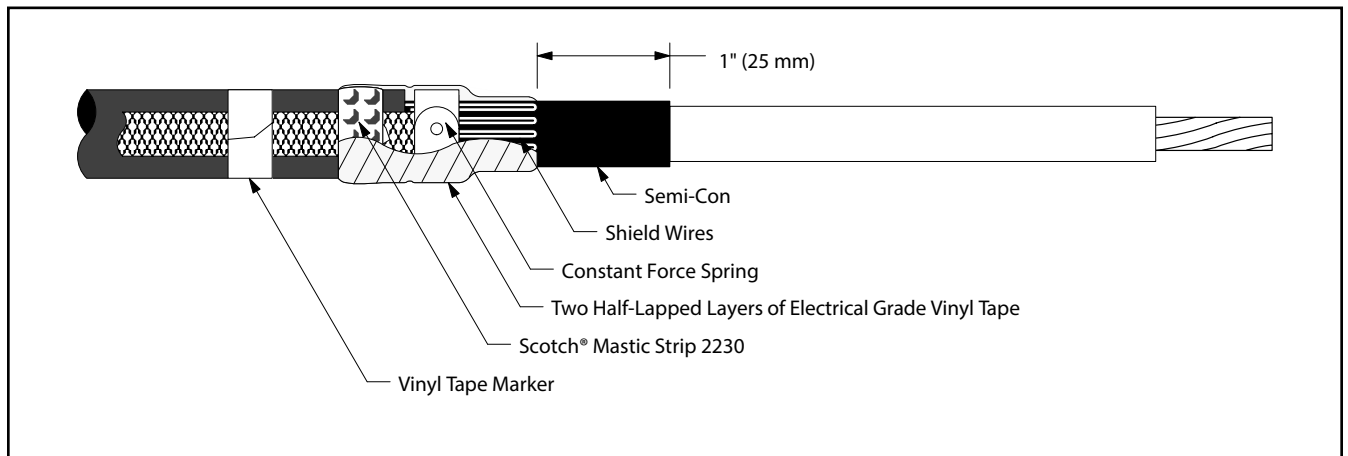

Figure 13
- 8.5 Wrap two highly stretched half-lapped layers of electrical grade vinyl tape around mastic seal, constant force spring and exposed shield wires (Figure 13).